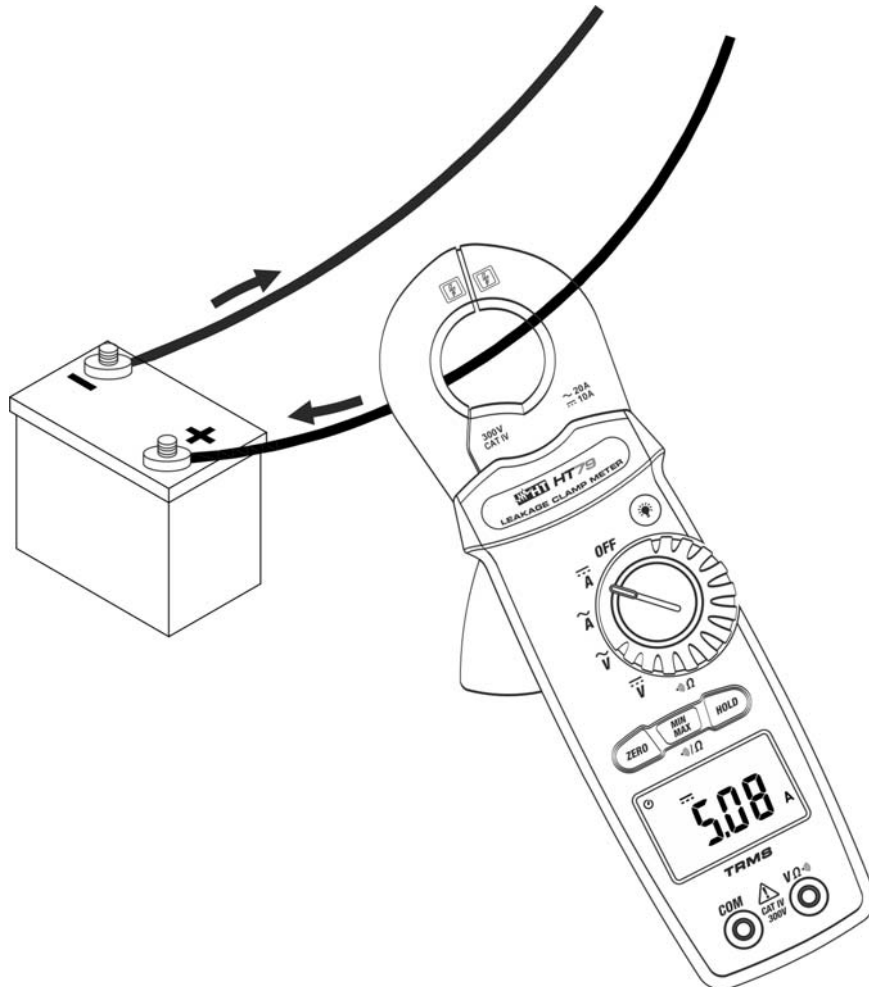

Fig. 8: Use of the instrument for DC current measurement
3. Insert the cable in the middle of the clamp jaws (see Fig. 8), in order to obtain accurate measures (see Fig. 2). The display shows the value of DC current.